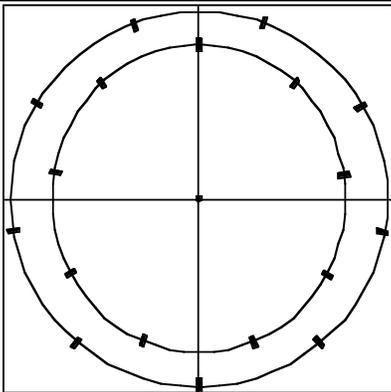

Fig. 3 – Put marks on outer circle  $\frac{1}{2}$  way between each of the inner circle marks
9. Make marks on the outer circle that are ½ way between the marks on the inner circle (Fig. 3).